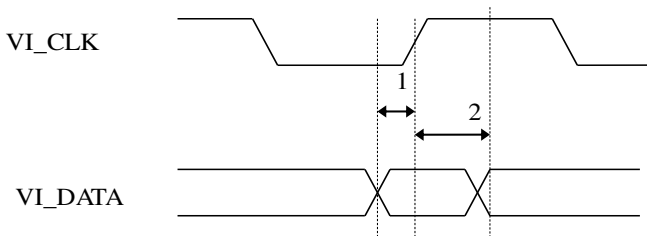

FIGURE 11. VI\_CLK AND VI\_DATA TIMING
2. The TW2826 has option to latch VI data using both positive and negative edge; please refer to register 0x22[7:4] and “Application Guide 6: Video Input Configuration” on page 39. In Figure 11, we only characterize rising edge case.